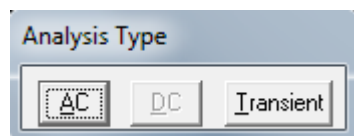

Fig.26. The selection between frequency domain or time domain analysis
After this step, the circuit may be simulated (*Analysis-Simulate* or *F11*). The *PSpice A/D Demo* starts and a *Analysis Type* window will ask you to choose between frequency domain (AC) and time domain (*Transient*) analysis (Fig.26).